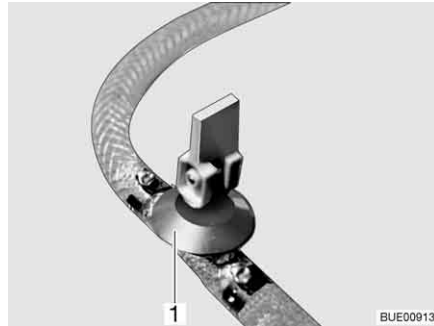

Fig. 143 Drain cock
- Close the drain cock(s). Position the rocking lever (Fig. 143,1) horizontally.
- Open drain cock(s) (Fig. 143). To do so, set the rocking lever (Fig. 143,1) in a vertical position. The boiler is drained to the outside.